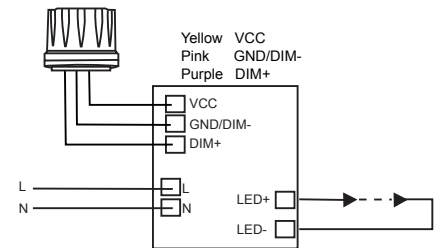

FIG.7
1. Connect the sensor if have. See FIG. 7.